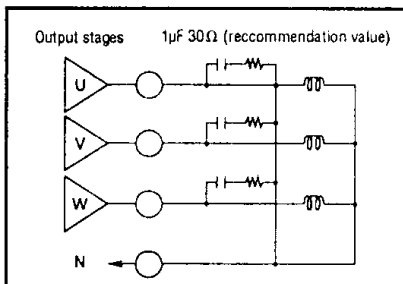

Figure 1 Snubber circuit
9. Fig. 1 shows the snubber circuit to reduce the spike noise at phase commutation.